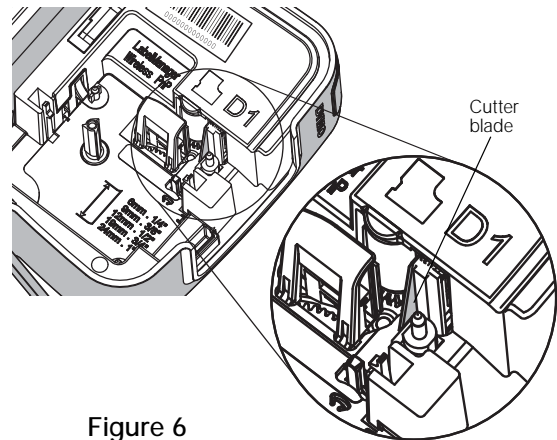

Figure 6
- 5 Repeat step 3 until the cutter blade is exposed. See Figure 6.